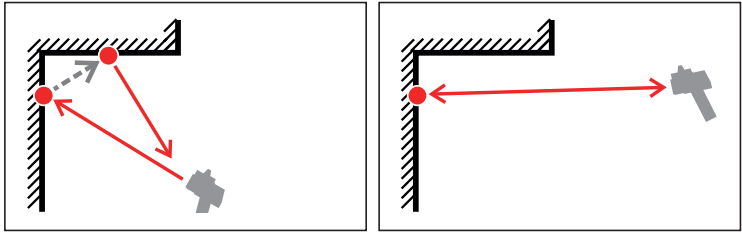

Fig. 18: Error source during measuring (3)
- The laser beam generates several reflection points on the reflective surface e.g. surfaces curved inwards or corners (fig. 18).